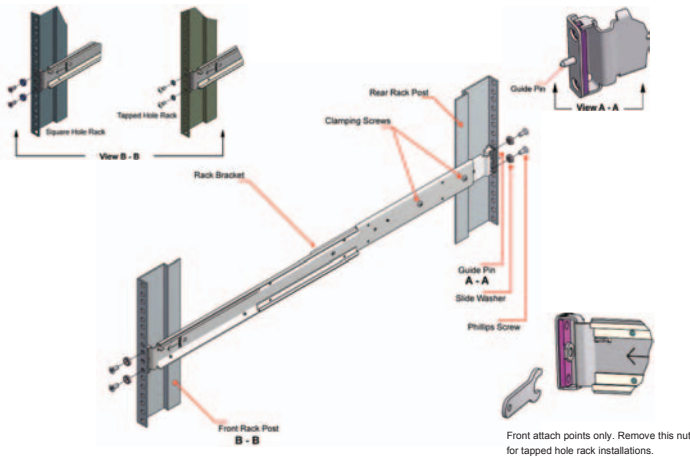

Figure 3: Securing Brackets to Rack - Left Hand Assembly Shown
4. Assemble the rack brackets to the rack posts as follows (see Figure 3). The brackets are universal and will fit either side.